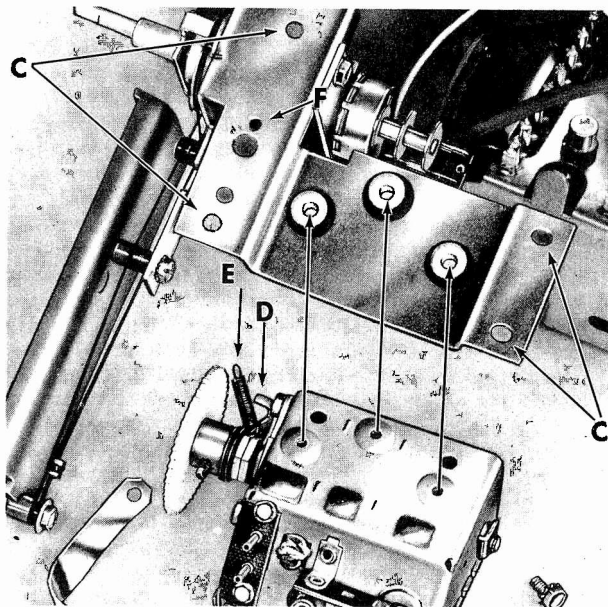

Fig. 2 View Of UHF Tuner Shown Removed From Chassis.
2. Remove the four screws (C) mounting the tuner and attached bracket to the upright. The complete assembly of the UHF tuner and gear assembly including the UHF dial, volume control, ON/OFF switch and shaft now can be rotated outward and downward. See the illustration (Figure 2.)